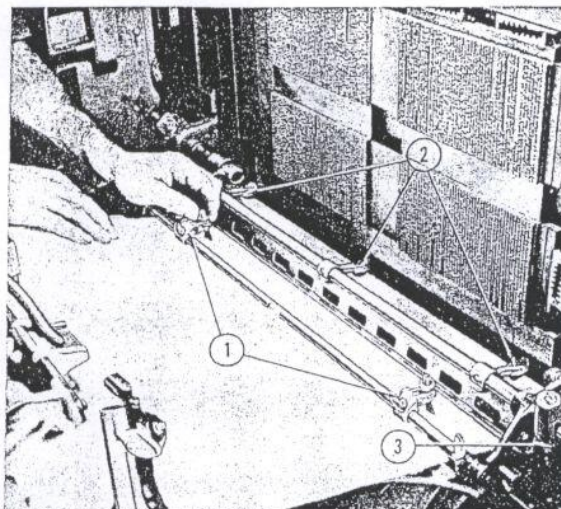

Figure 24—Adjusting Transfer Table Brushes
BRUSHES AND SHEET GUARD WHEELS.—When a sheet is being automatically positioned on the transfer table for correct side and front register, the suction holding the sheet to the table is released, allowing the sheet to move. After the sheet has been correctly registered, the transfer table moves forward slightly until the cylinder grippers close on the sheet. The transfer table brushes, which attach to the side guide tube, (1) figure 24, hold sheets to front register during front and side guide registering.
Also attached to the side guide rod are three sheet guard wheels, (2) figure 24, which are required only when running large sheets which have a tendency to "whip" as the sheet is taken from the cylinder by the delivery grippers. When these wheels are used, they are positioned so as to point downward and should be positioned laterally so as to fit into the blank margins of the forms and not be in line with the delivery grippers.